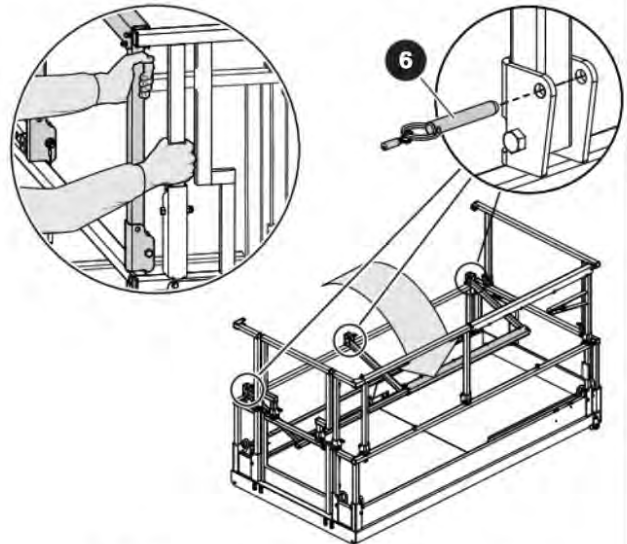

Figure 3-19. Fold down the left guardrail.
13. Move to the left side of the MEWP. Remove the front and center mid-rail pins. Then, remove the rear pin. Hold the vertical bar of the extension guardrail with one hand and fold down the left guardrail with the other hand (refer to Figure 3-19 for hand positions). Lock into place by installing mid-rail pins 6. Ensure the detent ball of the pin is all the way through.
14. Move to the right side of the MEWP. Remove the front and center mid-rail pins. Then, remove the rear pin. Hold the vertical bar of the extension guardrail with one hand and fold down the right guardrail with the other hand (refer to Figure 3-19 for hand positions). Lock into place by installing mid-rail pins 7. Ensure the detent ball of the pin is all the way through.